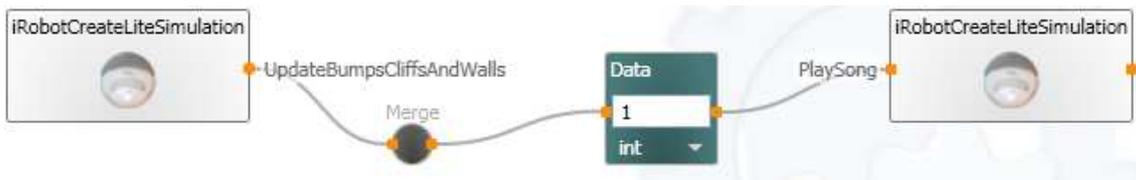

Figure 48. Playing song
2. Connect the last **Merge** (Figure 48) to both of them